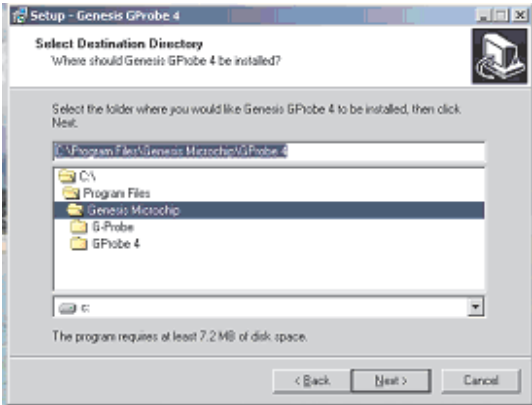

Fig.4
step 4.Double click the Gprobe4.5.0.5.exe icon to install the application as shown Fig.4